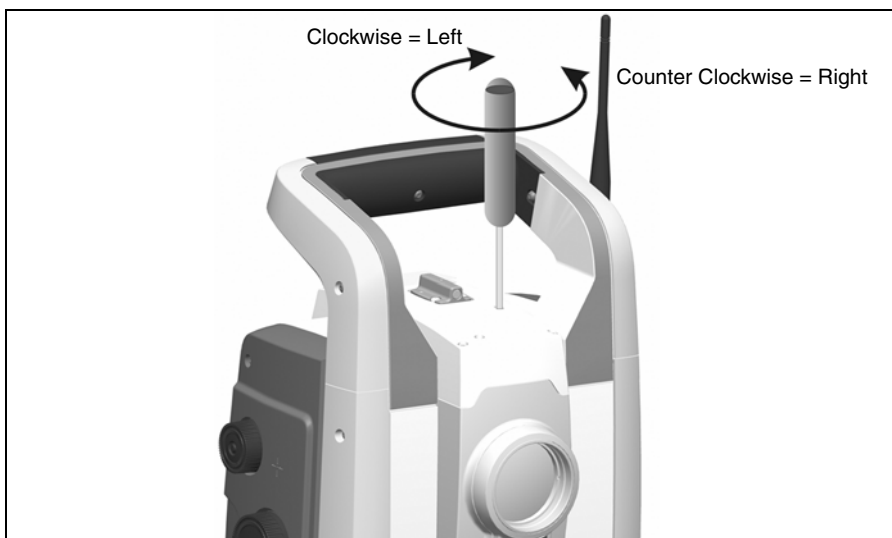

Figure 4.35 Horizontal position adjustment
3. To correct the horizontal position of the laser spot, insert the allen key into the horizontal adjustment port and turn it as shown in Figure 4.35.